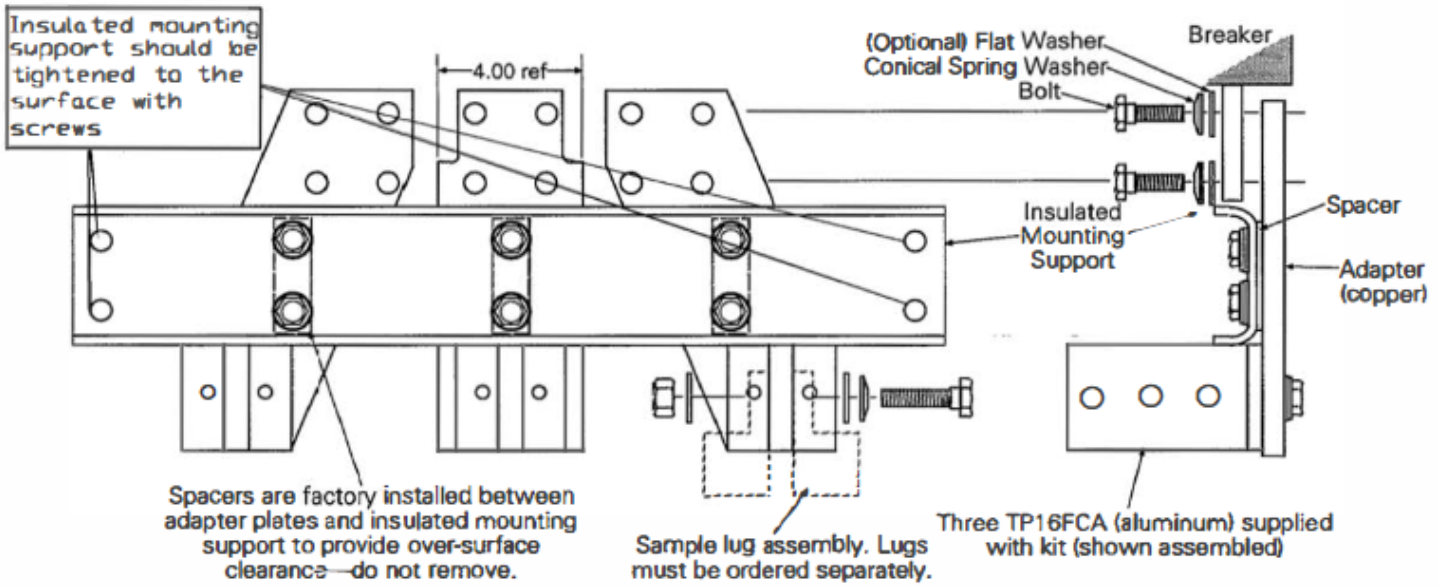

Figure 9. Typical assembly of lug adapters, catalog number TPLUGA20, to 2000 A frame breaker (except Power Break II).
- Figure 9 for TPLUGA20 to a 2000 A frame breaker (other than Power Break II).